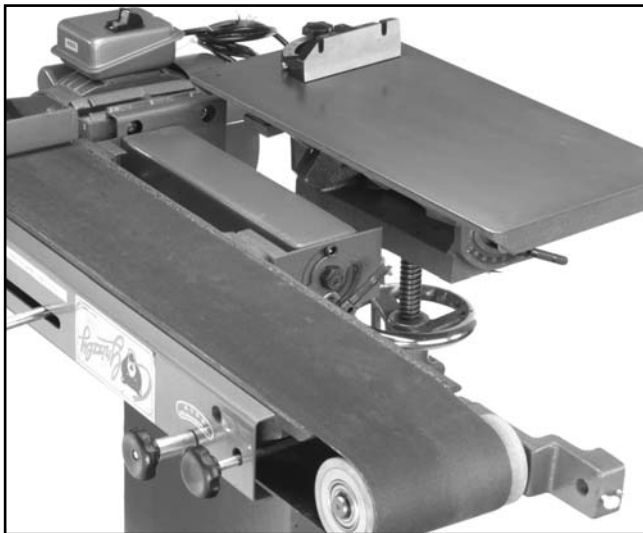

Figure 24. Platen tilted over 90°.
2. Carefully tilt the platen assembly over. **Figure 24**.